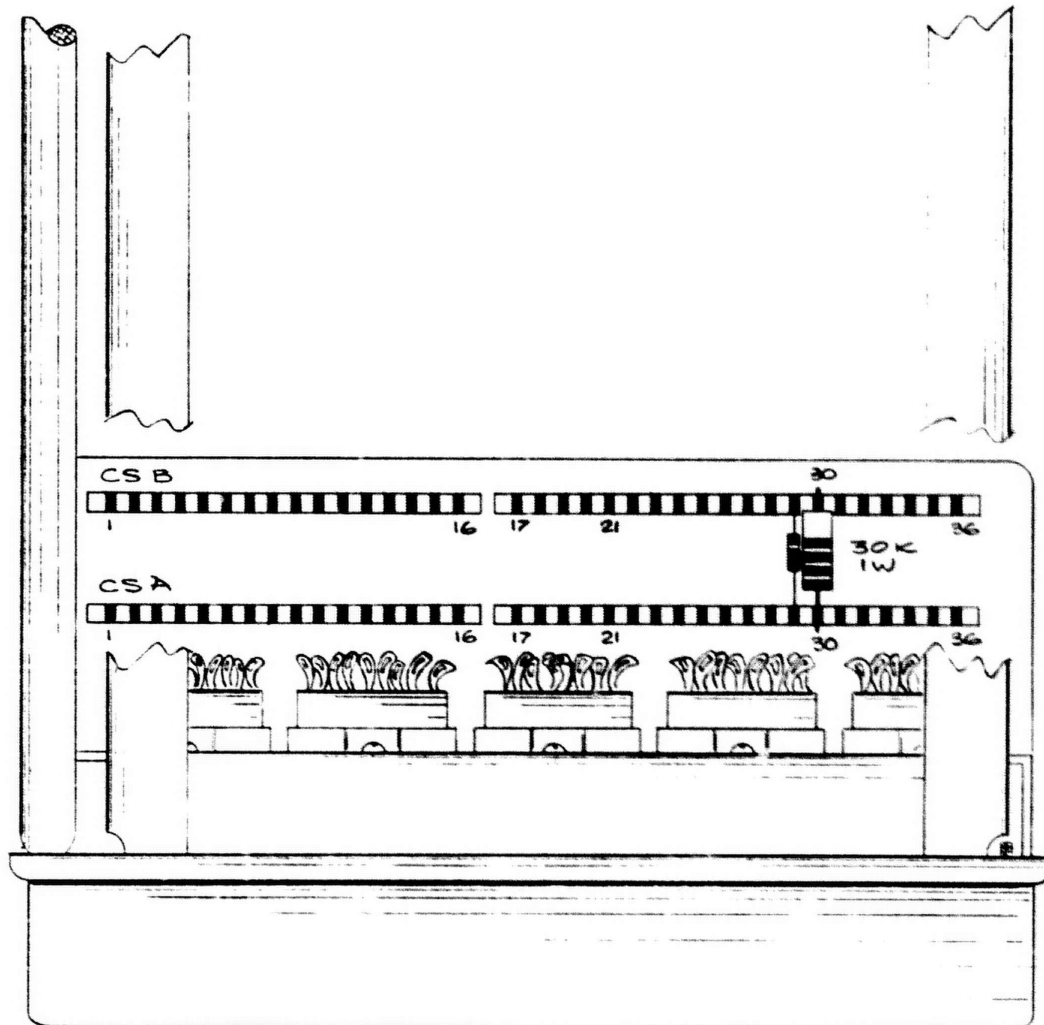

Fig. 5
- ( ) 13. Solder the 30k, 1w resistor (from kit) between CSA-30 and CSB-30 (see Fig. 5).
- ( ) 14. Solder the anode lead of the zener diode (from kit) to CSA-29 (see Fig. 5).